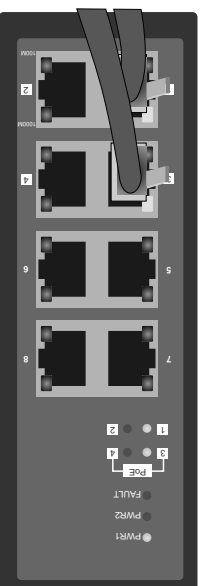
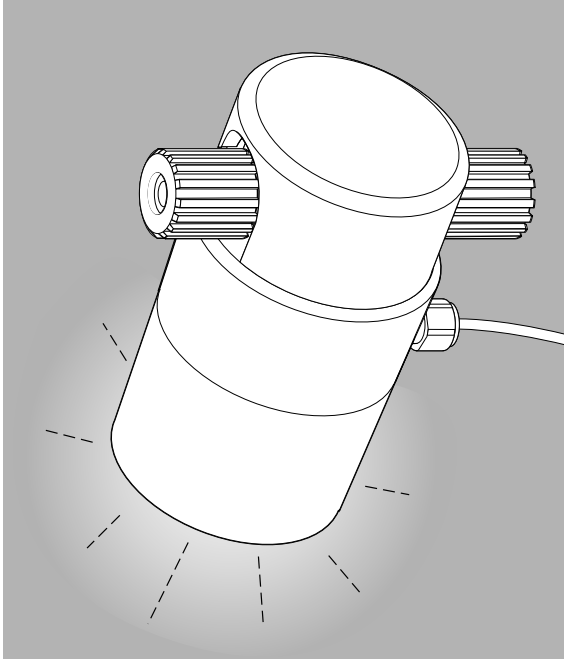

Figure 2.7 An example of PoE switch indicator lights
Figure 2.8 Process indicator lights in the sensor
When you connect the sensor to a powered POE switch, the indicator lights should light up. The actual position and function of the lights depend on the switch, but figure 2.7 shows the indicators on a typical POE switch. There's one indicator showing that the instrument is drawing power, another indicator (next to the Ethernet connector) shows the connection status. In this case a 100 Mbit/s connection is formed between two instruments at the switch ports 1 and 3 (a sensor per port), and there is a PoE device connected in these ports, 1 and 3.
If you keep the sensor in a dimly lit space, you should see the flashing of the processor indicator lights on the instrument cover (see figure 2.8). If the lights are flashing, the instrument receives power from the PoE connection.
- the instrument receives power; there is a faint flashing light on the cover of the instrument (figure 2.8) or the PoE switch indicates 'power OK' (see figure 2.7).